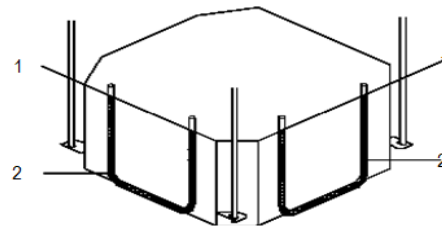

Fig. 12 – Ensure unit is level
- b. Check if the unit is level at all four corners with a water level or a water–filled vinyl tube (see Fig. 12).